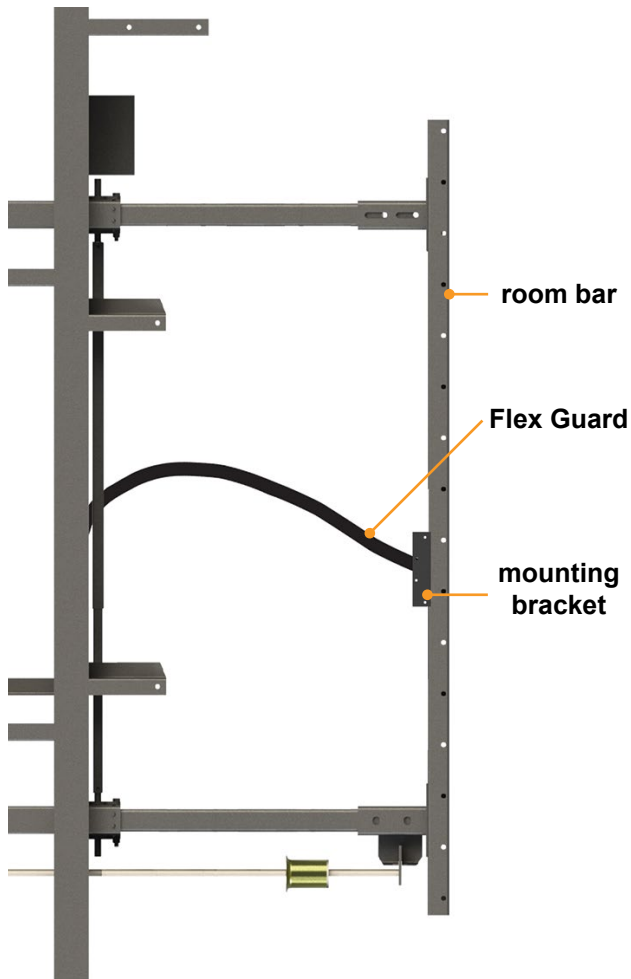

Fig.6
8. Figure 6 depicts the Flex Guard extended with the flat end installed onto the web of the I-beam.